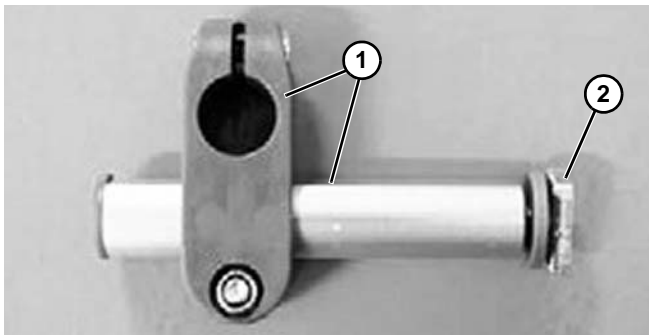

Figure 88
1. Fasten an adjustable guide rail bracket support (Figure 88, item 1) to the conveyor beam using T-bolt (Figure 88, item 2).